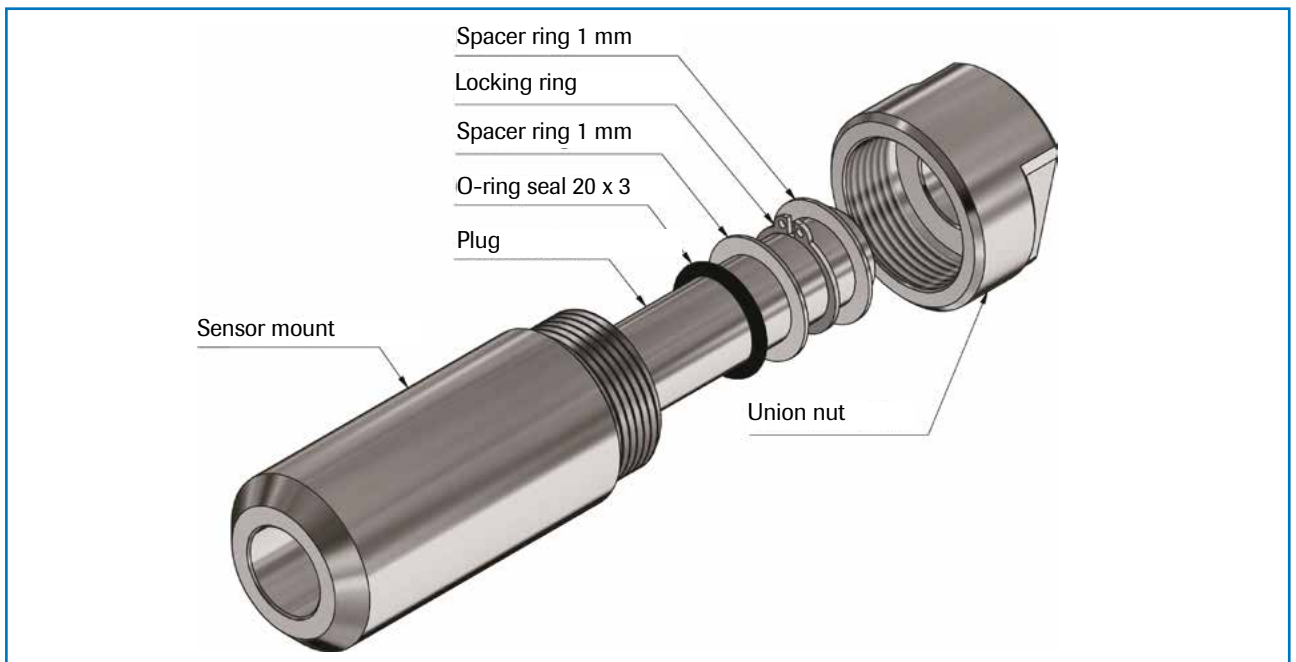

Fig. 5: Installing the sealing plug in the sensor holder
- If the sensor is not installed immediately insert a plug until it is installed (see also Fig. 5). The plug must be inserted together with the seal, two sealing rings and the locking ring, and secured using the union nut.